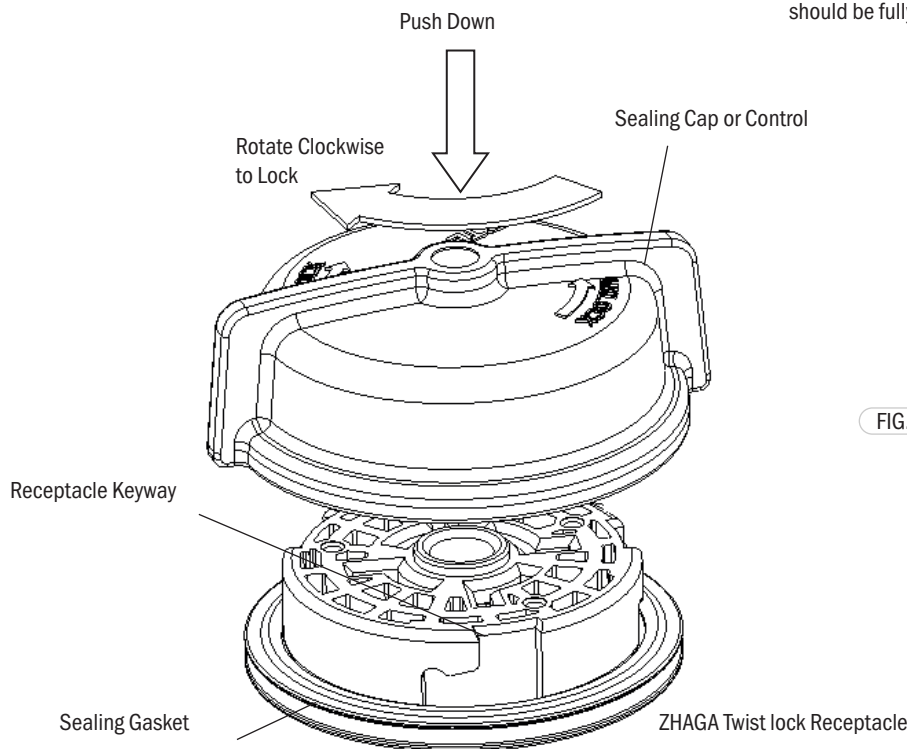

FIG.11
- 2 Adjust the lighting angle as needed to achieve optimal lighting coverage. (Figure 11)